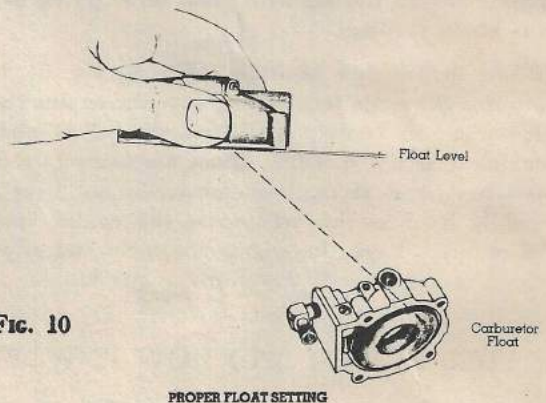

FIG. 10
The saw uses a float type carburetor (Fig. 10, Pg. 8) because this type of carburetor is the simplest to operate, the least likely to give difficulty, and the easiest to repair. The carburetor is held on the saw at a forty-five degree angle to enable the saw to be used for both felling and bucking (cutting when the log is down). The gas feeds into the carburetor by gravity; and to see that the carburetor receives gas when the saw is held all the way forward in a bucking cut, the gas tank has a partition (baffle) (Fig. 7, Pg. 7) built into the rear. This holds
3. To check float level (Fig. 10, Pg. 8) loosen main adjustment screw lock nut and remove main adjustment screw. Remove the four screws holding the fuel bowl to the upper body of the carburetor. Remove fuel bowl and turn upside down. Edge of float should be level with the edge of the fuel bowl (Fig. 10, Pg. 8). Adjust to proper setting by finger pressure or by using a screw driver.